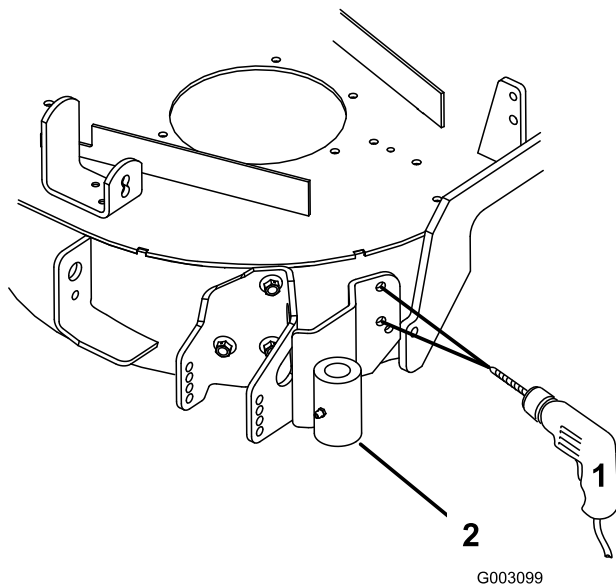

Figure 4
6. Mark and center punch the locations for the two holes in the mounting plate (Figure 4).
7. Remove the mounting plate and drill two 13/32 inch diameter holes (Figure 4).